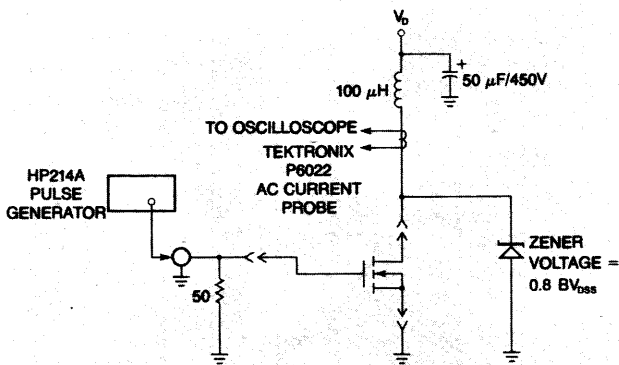

Figure 15. Circuit for Clamped Inductive Switching.
- Inductance = 100  $\mu H$ , Clamp Voltage =  $.8 V_{DSS}$  (see Figures 15 & 16).